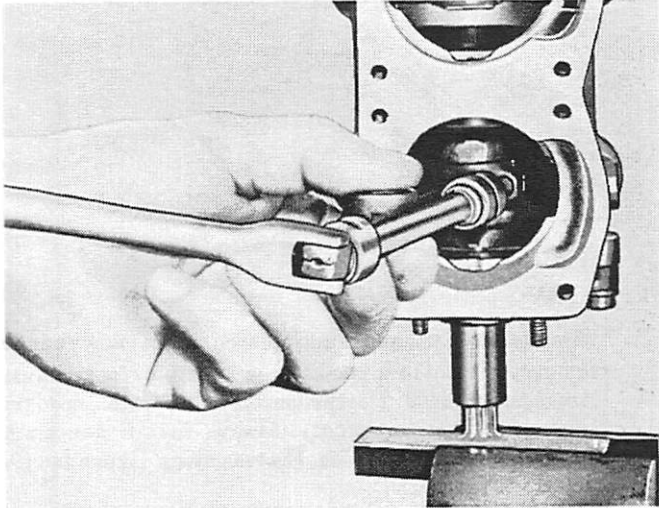

Figure 4. Removing Connecting Rods
2. Remove both Allen screws, which hold connecting rod cap, with Allen Socket Wrench, and connecting rod can be removed. (Figure 4)